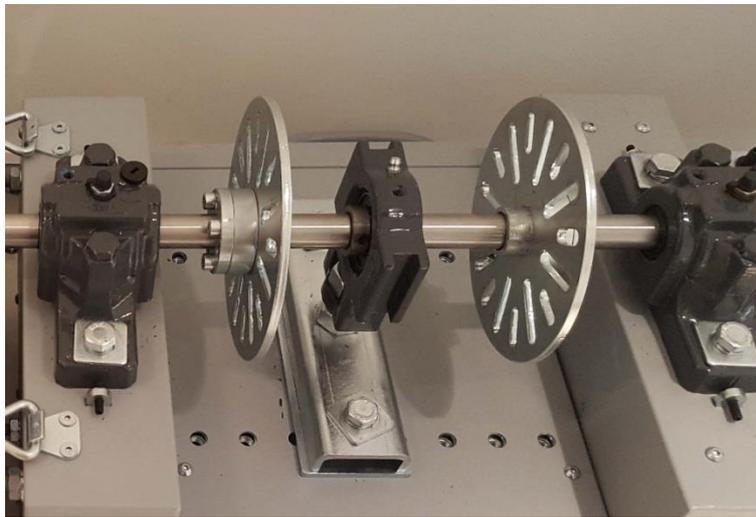
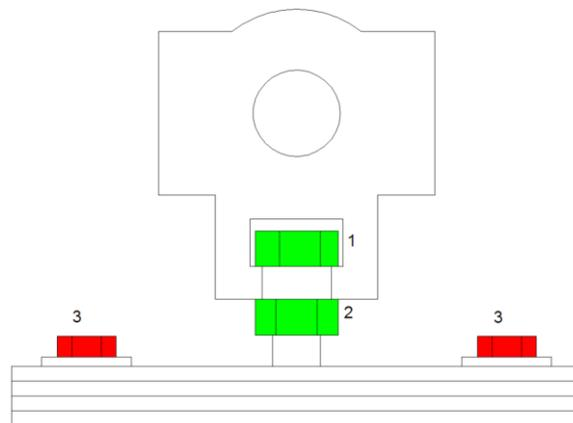

Figure 5.15 // Unbalance discs
Figure 5.18 // View the bearing housing
Unbalanced discs are shown in Figure 5.15, Figure 5.16 shows a single unbalance element. Disc, along with dimensions, is shown in Figure 5.17.
The bench allows to introduce a radial load to the bearing in order to observe its behavior and possible damage development. To do that, user has to use bearing shown in Figure 5.15, housing of which allows vertical movement. Figure 5.18 shows a sketch of bearing designed for implementation of a radial force. It consists of a bearing housing, screw with nuts (indicated by the numbers 1 and 2) and the base mounting screws (3).